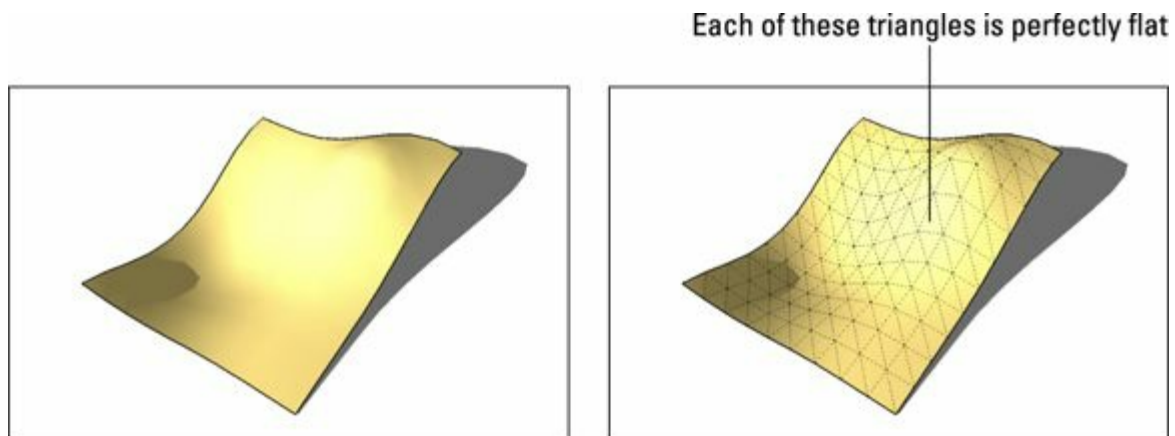

FIGURE 3-5: All faces are flat, even the ones that make up larger, curvy surfaces.
- » **Faces are always flat.** In SketchUp, even surfaces that look curved are made of multiple, flat faces. In the model shown in Figure 3-5, what look like organically shaped surfaces (on the left) are really just lots of smaller faces (on the right). To make a bunch of flat faces look like one big, curvy surface, the edges between them are *smoothed*. You find out about smoothing edges in Chapter 6.